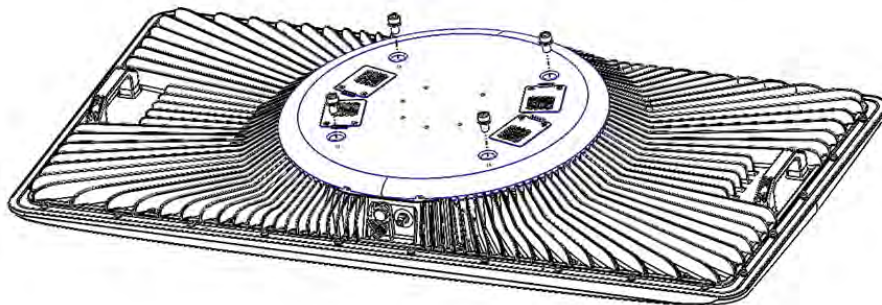

Figure 26: Mount Points
1. With the antenna upside down, take out the screws shown in Figure 26.